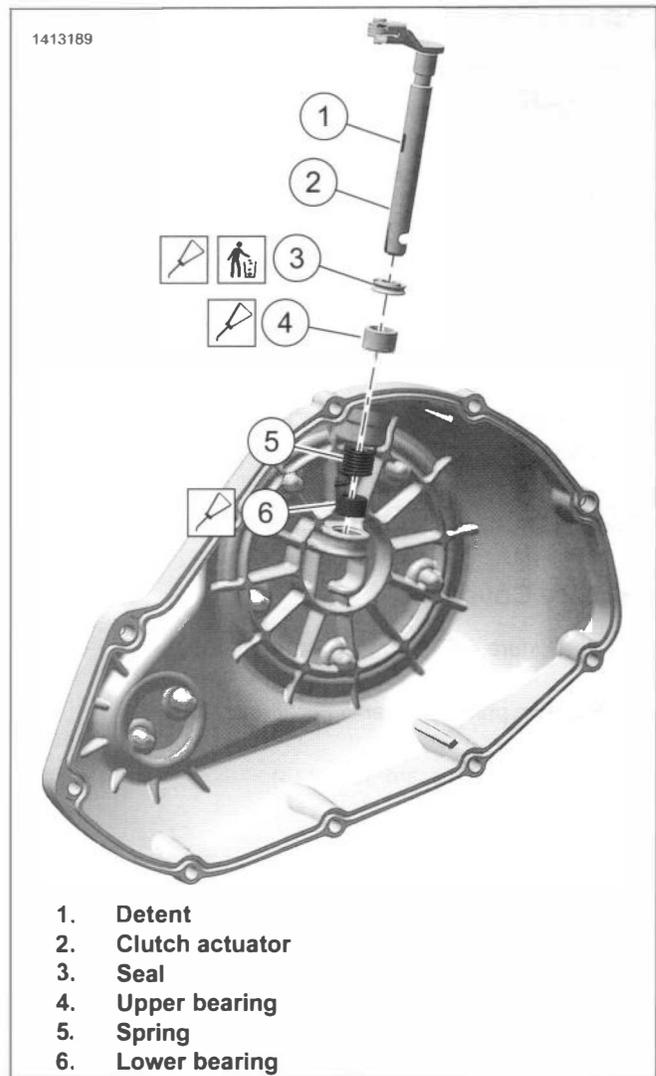

Figure 4-65. Clutch Actuator
1. See Figure 4-65. Remove spring (5) from clutch actuator's detent (1).
2. Remove clutch actuator (2).
3. Remove and discard seal (3).
1. See Figure 4-65. Lubricate and install **new** seal (3) onto clutch actuator (2).
- a. Position spring (5) into alignment with clutch actuator (2).
- b. Install clutch actuator (2).
- c. Lock spring (5) into clutch actuator's detent (1).
- d. Other end of spring (5) is anchored against the primary cover's casting.